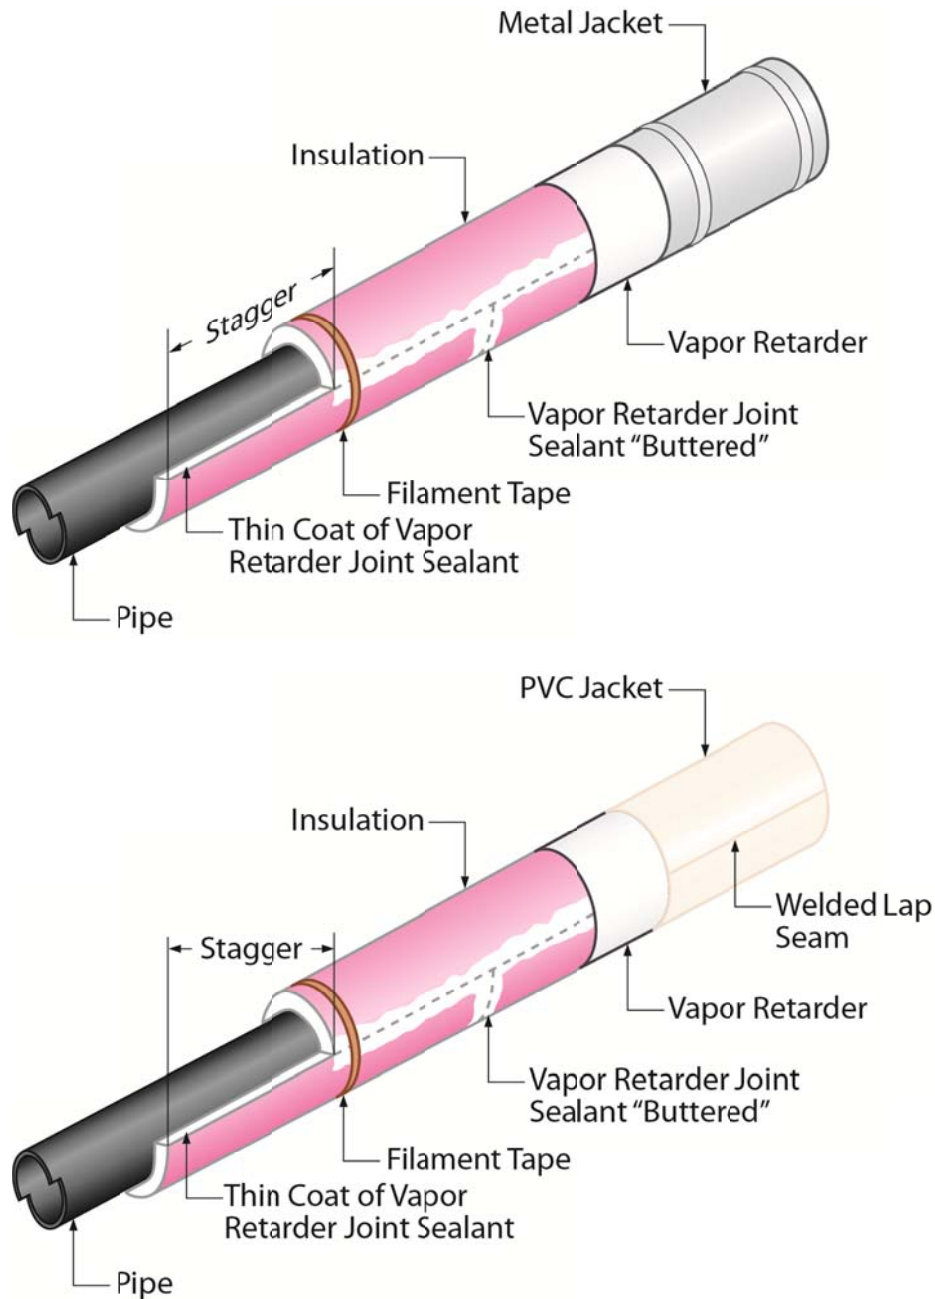

**Figure 6**
6. Vapor retarder should be oriented such that the longitudinal lap joint overlaps facing downward at either the 3 or 9 o'clock position. Lap joint shall be sealed using SSL tape as a temporary bond. (Figure 6, Appendix A)
9. For factory applied facing systems, apply the vapor retarder tape around the butt joint overlap per the manufacturer's installation directions in the appropriate orientation as noted above. (Figure 6, Appendix A)
10. Vapor retarder should be oriented such that the longitudinal lap joint overlaps facing downward at either the 3 or 9 o'clock position. Lap joint shall be sealed using SSL tape or liquid adhesive. (Figure 6, Appendix A)
13. For factory applied facing systems, apply the vapor retarder tape around the butt joint overlap per the manufacturer's installation directions in the appropriate orientation as noted above. (Figure 6, Appendix A)